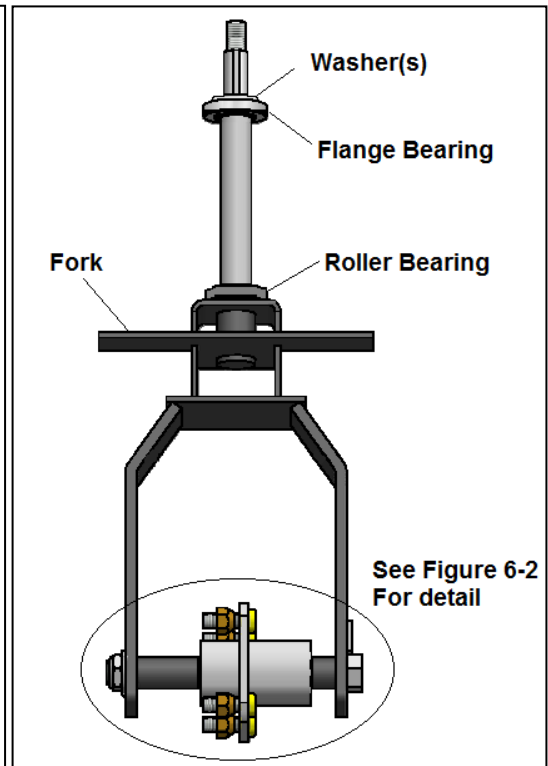

Figure 6-7
2. Remove two Phillips head screws securing steering wheel to collar (Figure 6-7).
See Figure 6-7